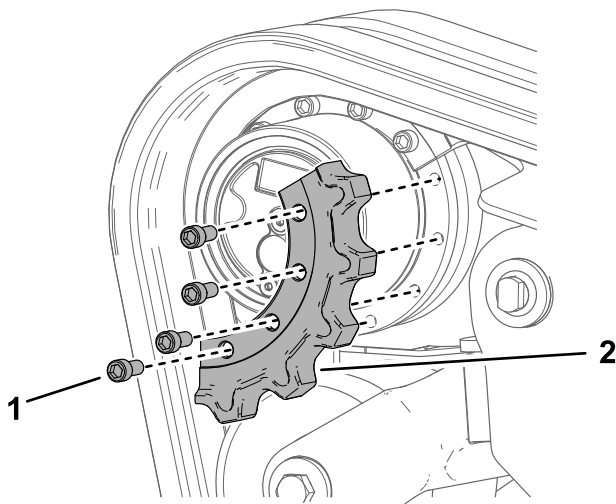

Figure 75
- Remove the sprocket segment (Figure 75).
- Apply thread-locking compound to the bolts of 1 drive sprocket segment that you removed and install the sprocket segment (Figure 75). Torque the bolts to 247 to 301 N·m (182 to 222 ft-lb).